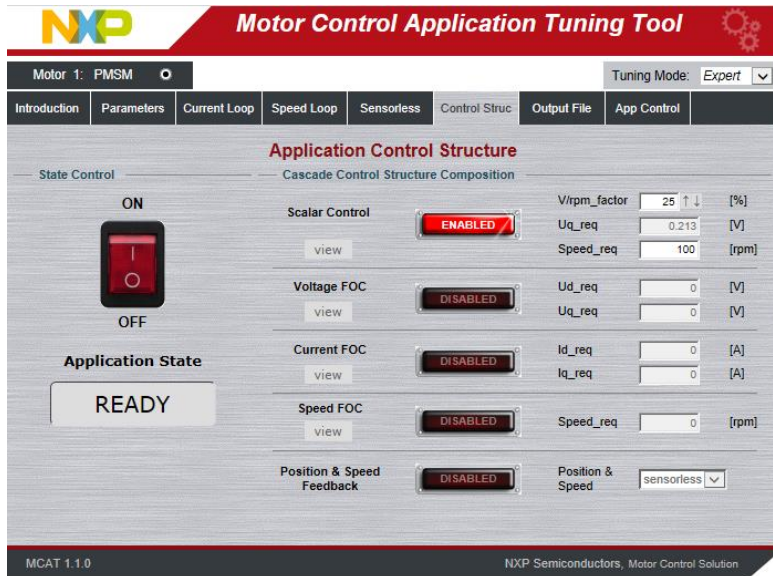

Figure 31. MCAT Control Structure Page with Initial Scalar Control Settings
- Control Structure tab: **Scalar control** enabled, see Figure 31
- Control Structure tab: **V/rpm_factor** set to the lowest value of 25%, see Figure 31
- Control Structure tab: **Speed_req** set to a small speed (e.g. 100 RPM), see Figure 31